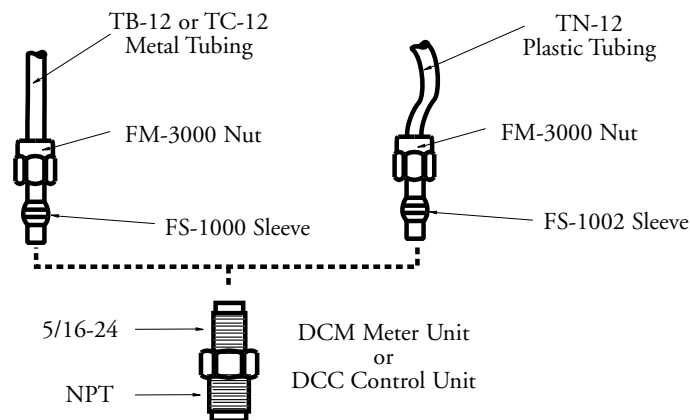

Figure 1
In these applications, the meter or control unit is connected directly to the lubrication point and a single line is connected to it (fig. 1). One end of the meter or control unit is NPT or BSPT and the other end is a 5/16-24 or metric straight thread.
3. Tubing Fittings - Refer to figures 1, 2, and 3 for examples of how the tubing fittings connect. When connecting tubing to a female thread, use the FM-1000 series bushings in place of the FM-3000 series nuts (fig. 4).